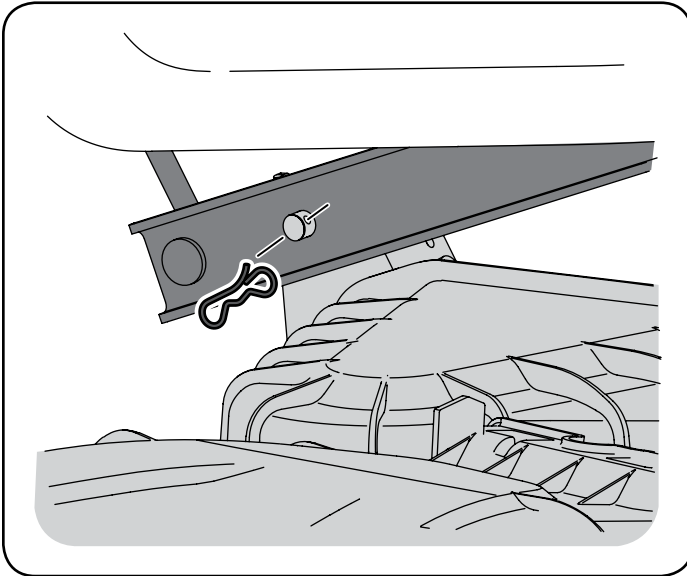

Figure 30
4. Looking at the cutting deck from the left side of the tractor, locate the bow-tie pin on the rear left side of the deck. See Figure 30.
5. Remove the bow pin and slide the deck pin out of the deck lift arm. See Figure 30.